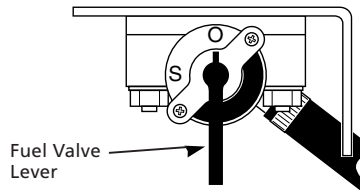

Figure 18 - Fuel Valve Lever in "O" (open) Position
2. Move fuel valve lever to the "O" (open) position (See Figure 18).